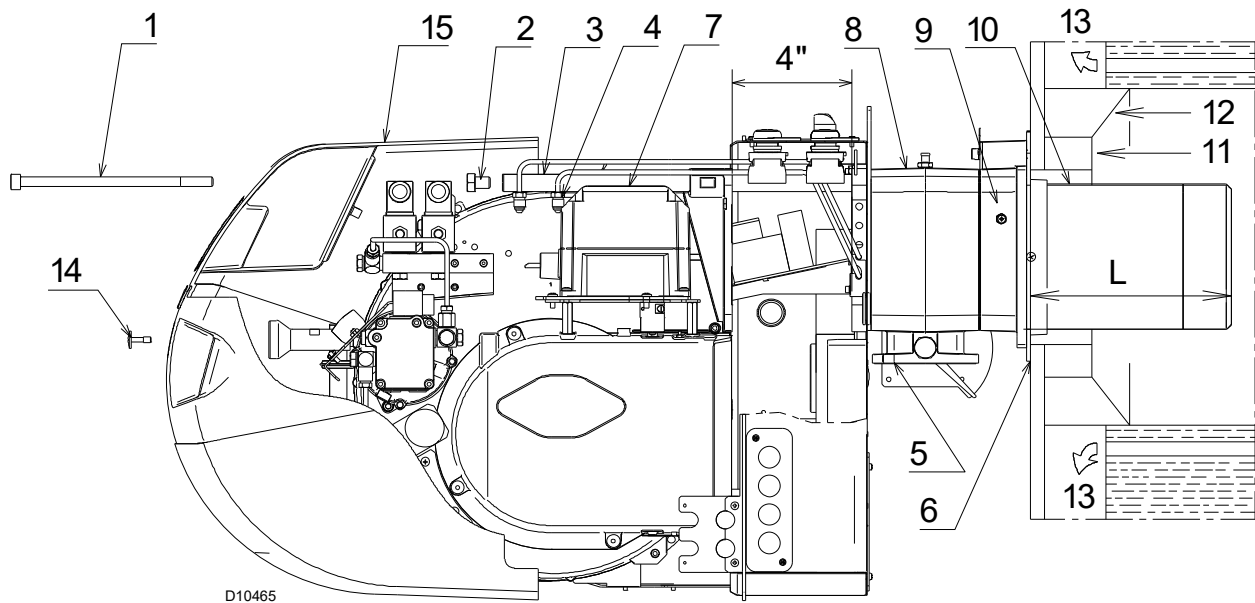
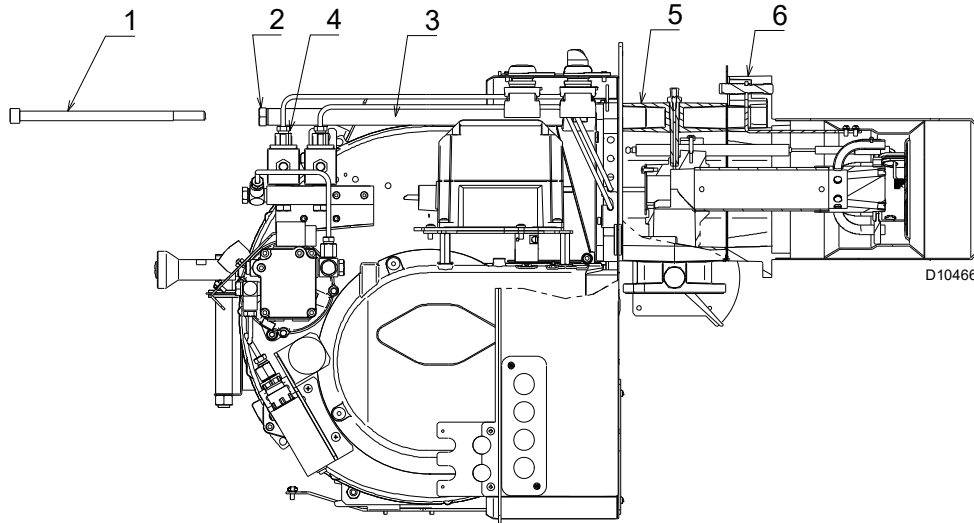

Fig. 11
Fig. 16
For boilers with front flue passes 13)(Fig. 11) or flame inversion chambers, protective insulation 11) must be inserted between the boiler refractory 12) and the blast tube 10).
Detach the combustion head from the burner (Fig. 11):
- Refit the burner 4)(Fig. 16) to the slide bars 3) at approximately 4" from the sleeve 5) - burner positioned as shown in Fig. 11 on page 19;
- insert the ignition electrode cables and then slide bars the burner up to the sleeve so that it is positioned as shown in Fig. 16;
- connect the oil pipes again by screwing on the two connectors 4)(Fig. 11 on page 19).